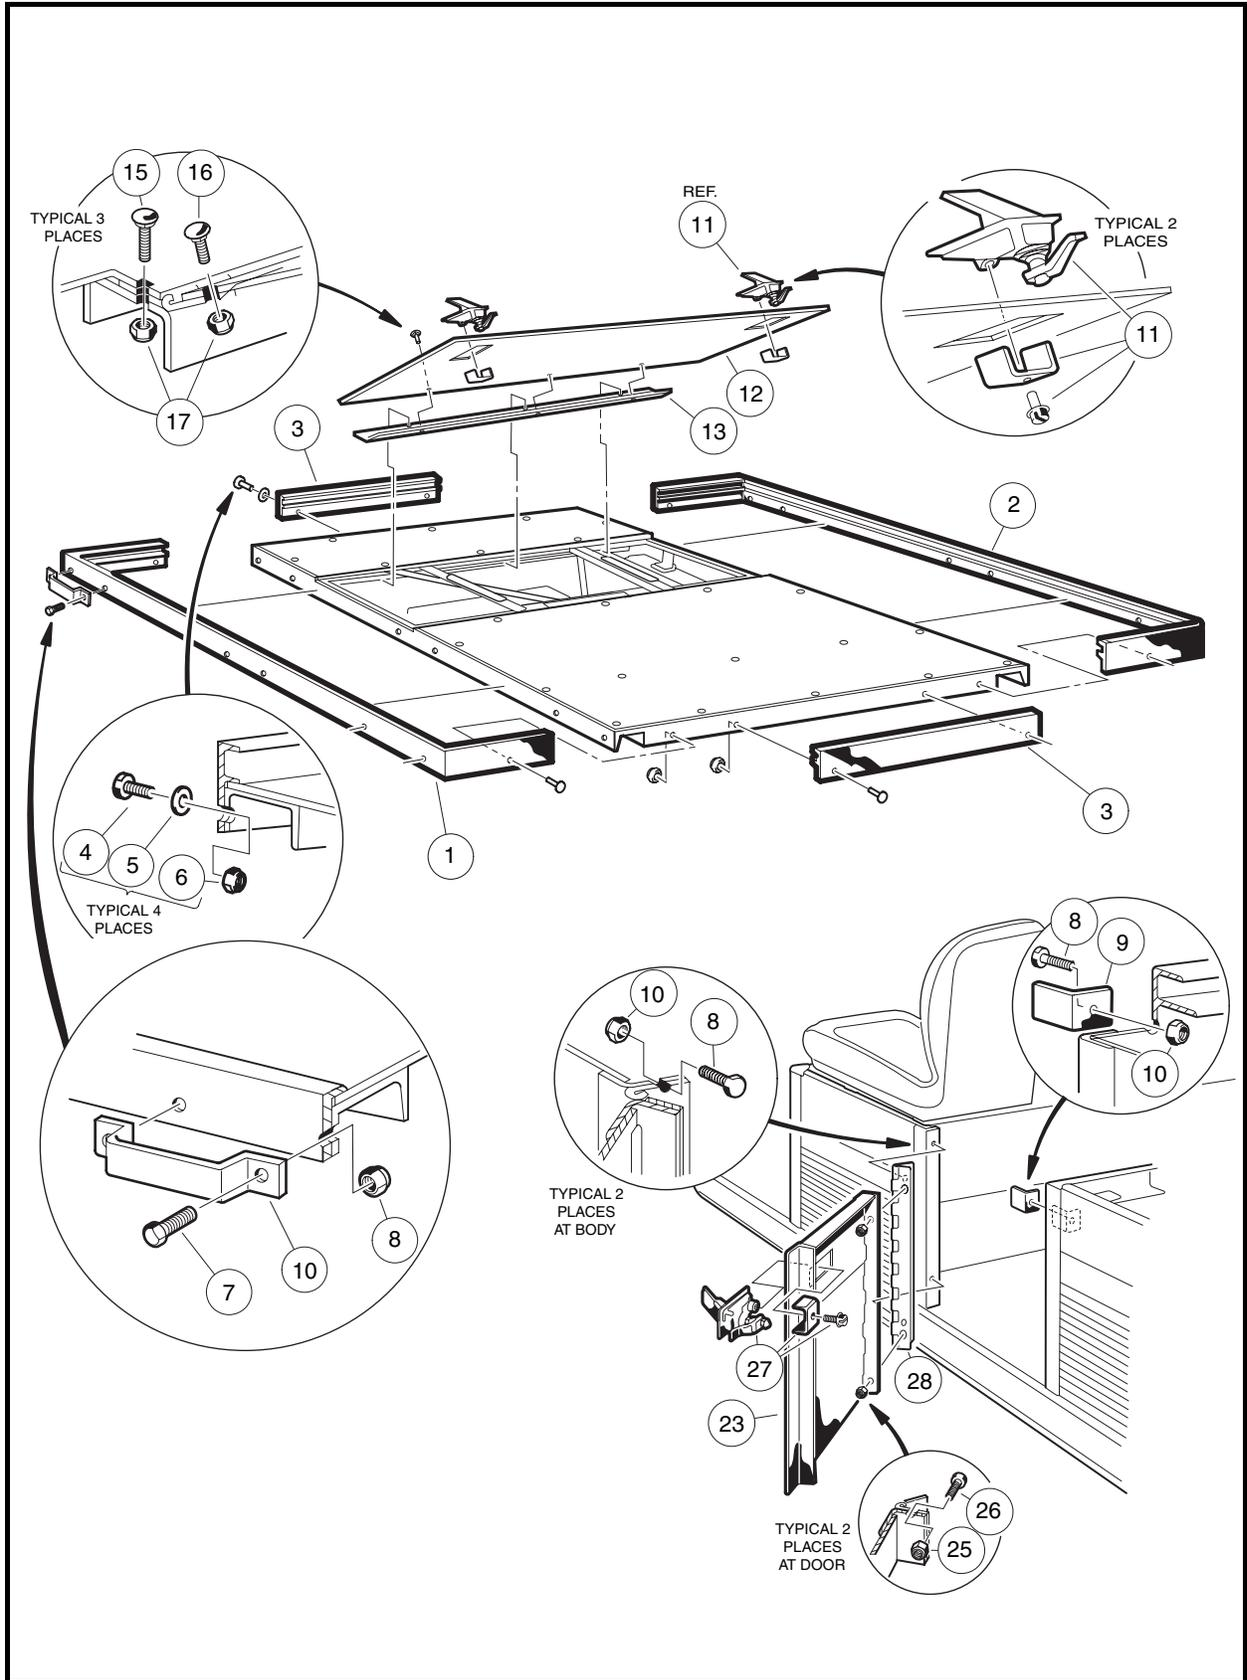

Figure 4-4 Flat Bed Trim, Access Door, and Side Door – Turf 6 and Carryall 6
1. Release access door latches (11) and open access door (12) (**Figure 4-4, Page 4-9**).
4. Remove four bolts (4), flat washers (5), and lock nuts (6) from trim strips (3) on front and rear edge of bed. Remove trim strips from bed.
5. Remove two bolts (7) and lock nuts (8) from the bracket (10) on driver-side trim strip (1). Remove bracket from bed.
2. Tighten bolts (4 and 7) to 8 ft-lb. (10.8 N·m) (**Figure 4-4, Page 4-9**).
1. Raise levers on left and right hand door latches (11), rotate them 180 degrees and open access door. Rest door against seat back support panel (**Figure 4-4, Page 4-9**).
2. Remove three lock nuts (17) and bolts (16) from access door side of hinge.
1. Install access door in the reverse order of removal (**Figure 4-4, Page 4-9**).
2. Tighten nuts (17) to 8 ft-lb (10.8 N·m).
3. Close access door and secure both door latches (11).
1. Lift door latch lever (27), rotate 180 degrees, and open side door (**Figure 4-4, Page 4-9**).
2. Remove two 1/4 x 5/8 bolts (26) and lock nuts (25) from door hinge.